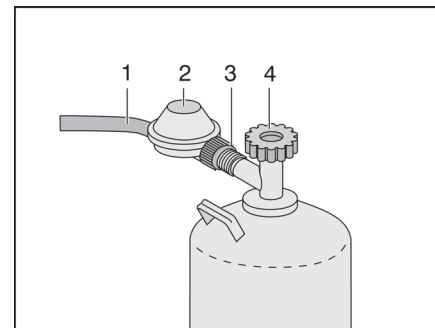

Fig. 129 Gas bottle connection
- ▶ Close the regulator tap (Fig. 129,4) on the gas bottle. Pay attention to the direction of the arrow.
- ▶ Hold the gas pressure regulator (Fig. 129,2) and open the knurled nut (Fig. 129,3) (left-handed thread).
- ▶ Remove the gas pressure regulator and the gas tube (Fig. 129,1) from the gas bottle.
- ▶ Position the gas pressure regulator (Fig. 129,2) and the gas tube (Fig. 129,1) on the gas bottle and tighten the knurled nut (Fig. 129,3) by hand (left-handed thread).